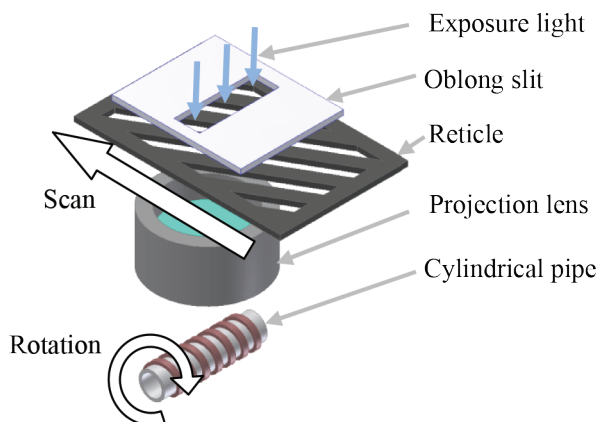
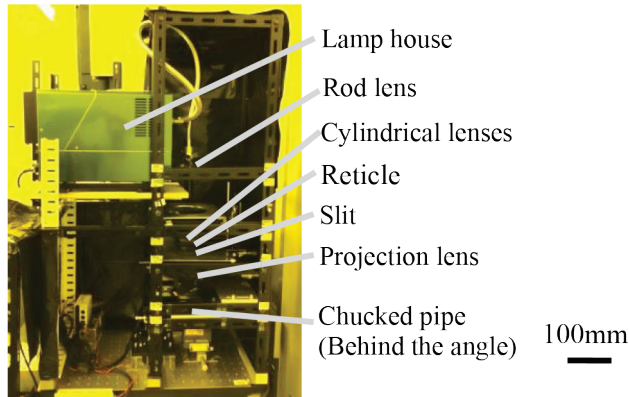

Figure 1. Synchronous rotary scan-projection lithography.
Figure 2. Developed synchronous rotary scan-projection exposure system.
Figure 1 shows a schematic Figure of the synchronous rotary scan-projection lithography, and Figure 2 shows the appearance of the exposure system used for the research. The sizes of the system are 600 mm wide, 400 mm deep, and 935 mm high. As a light source, an ultra high-pressure mercury lamp (Infridge, UVB-300) with a major wavelength of 365 nm was used. A camera lens for the use of macro photography (Sigma, 50 mm F2.8 EX DG MACRO) was used as the projection lens, and the projection ratio was adjusted to approximately 1:1. F-number was set at 2.8, and the calculated numerical aperture (NA) was 0.09. Light intensity was homogenized using the rod lens and additionally inserted cylindrical lenses within  $\pm 5\%$  in the 12-mm long area narrowed by the oblong slit with a width of 0.8 mm.